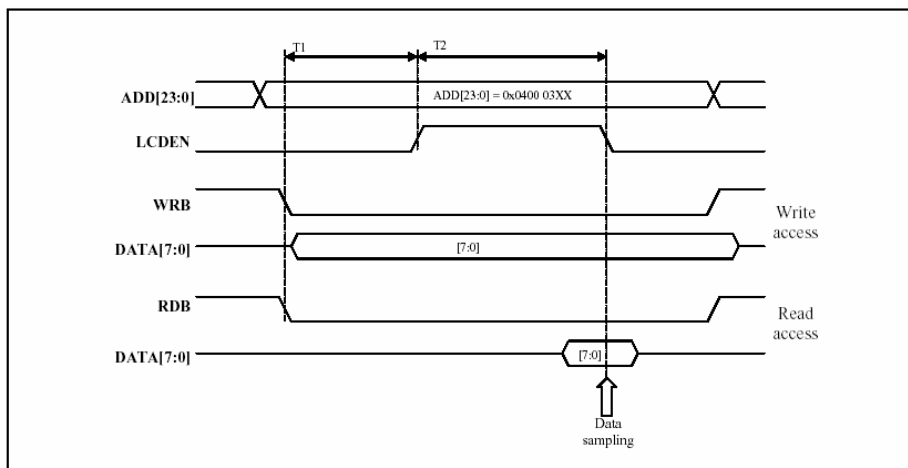

Figure 3: Parallel bus chronogram
- The "*Lcd_AddressSetUpTime*" parameter sets the time between the setting of an address for the parallel bus and the activation of the LCD_EN pin (only if LCD_EN is the Chip Select). It is the T1 time on the figure 3 below. The allowed values are from 0 to 31. The resulting time is :
- The "*Lcd_LcdenSignalPulseDuration*" parameter sets the time during which the LCD_EN pin is valid (only if LCD_EN is the Chip Select). It is the T2 time on the figure 3 above. The allowed values are from 0 to 31. The resulting time is: